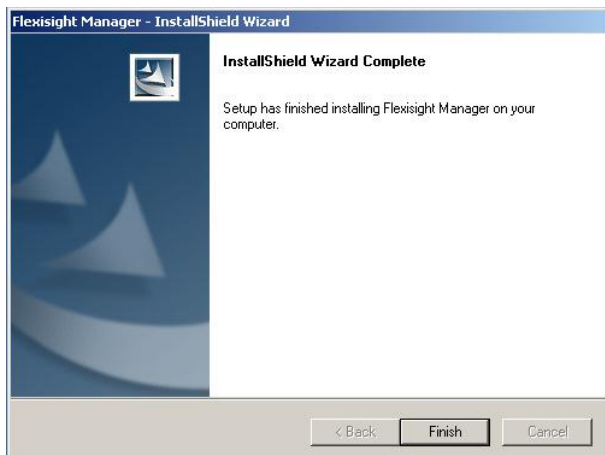

Figure 2.3 Installation Complete
5. Once the installation of FlexiSight Manager is complete press **Finish** (see Figure 2.3).